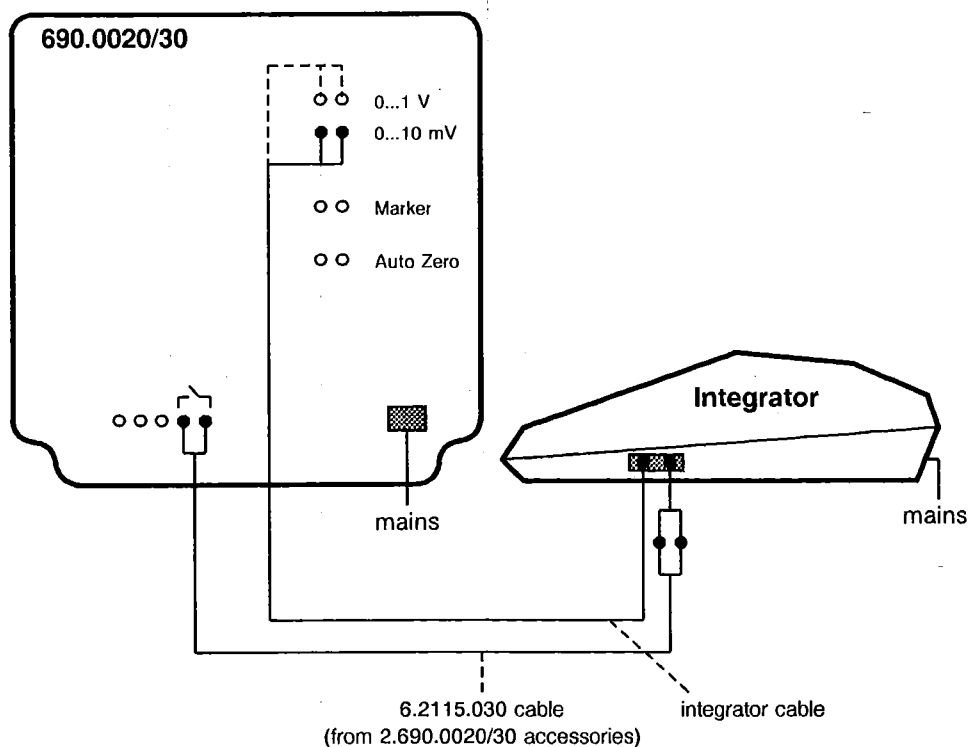

Fig.16: Connection of an integrator at the 690 Ion Chromatograph
An integrator or PC is connected to the connection sockets (18) at the rear of the instrument (see Fig. 16), either to output 0...10 mV or 0...1 V with a special integrator cable (normally part of the integrator accessories). You can also use a 6.2115.030 cable (option, see Section 8.2).
With the 690.0020 and 690.0030 versions the integrator can be started automatically when the electrical injector valve is put into position "Inject". For that the integrator must be connected to the connection sockets (35) "Integrator Start" by means of the 6.2115.030 cable (see Fig. 16, for technical specifications see Section 7.2).